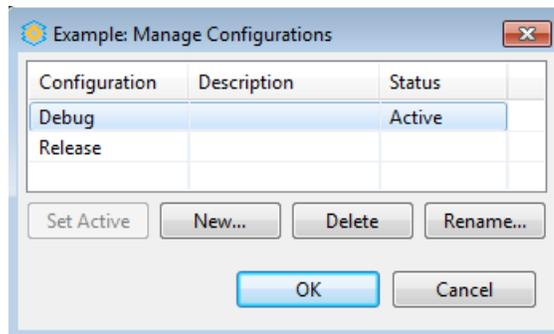

Figure 3.14. Manage Configurations Dialog
- b. The Manage Configurations dialog opens (Figure 3.14) for selecting active configuration. By default, a Debug configuration creates executables contain additional debug information that lets the debugger make direct associations between the source code and the binaries generated from the original source. A Release configuration provides the tools with options set to create an application with the best performance.